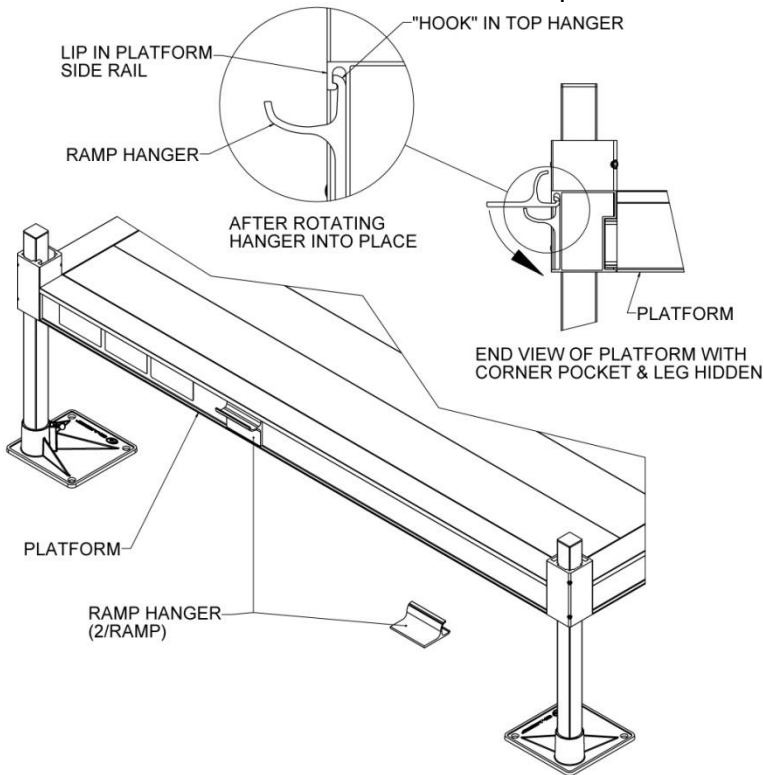

FIG. 3.3
- 3.2.3. Hold the hanger perpendicular (approximately) to the platform side rail then bring the hanger upward until it is against the side rail lip. Rotate the hanger and continue pushing upward in such a manner that the "hook" at the top of the hanger goes behind and catches on the lip in the top of the platform side rail and the hanger sits on the ledge at the bottom (FIG. 3.3).